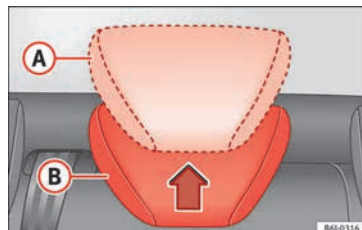

Fig. 78 Rear head restraint adjustment.
- Raised position or position for use **A** » **Fig. 78**. In this position, the head restraint is used normally, protecting the occupant of the rear seats, along with the rear seat belts.
- Rest position, not in use **B** » **Fig. 78**. This position improves the driver's rear visibility.